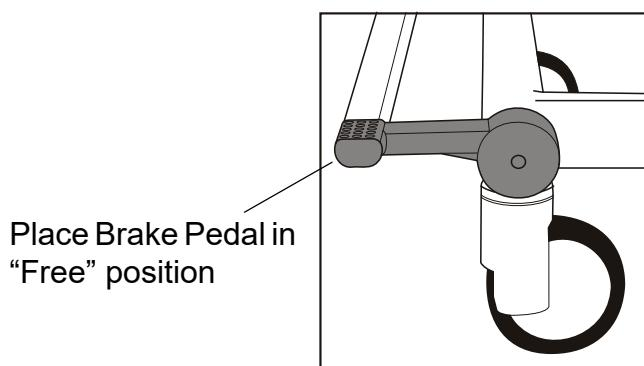

Fig. 2 - Free Position
2. Check that the brakes are unlocked and the brake pedal is in the "Free" position. **(See Fig. 2)**